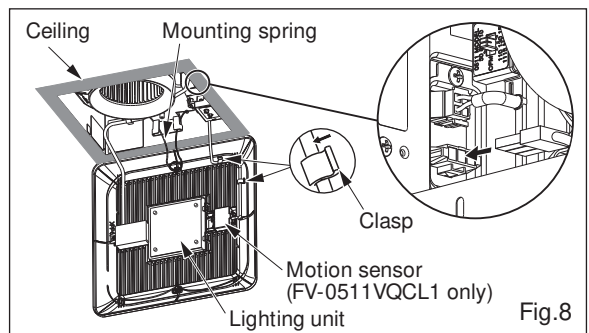

Fig.8
10. Insert the grille mounting spring on the wiring side into the slot and insert the plug connector into the housing of the lighting unit. (Fig.8)
11. Insert the motion sensor on the grille and dress the wire as shown. (Fig. 8)